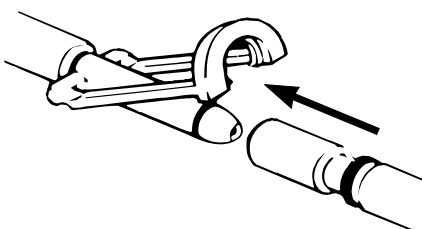
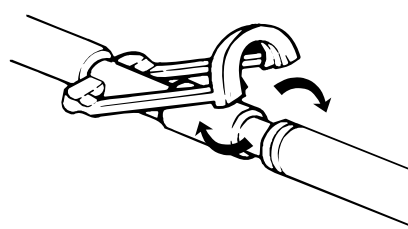

Figure 1-3: Connecting fittings
Figure 1-4: Twist fittings
1. Insert the male fittings into the female fittings with a twisting motion (Figure 1-3 on page 14 and Figure 1-4 on page 14).